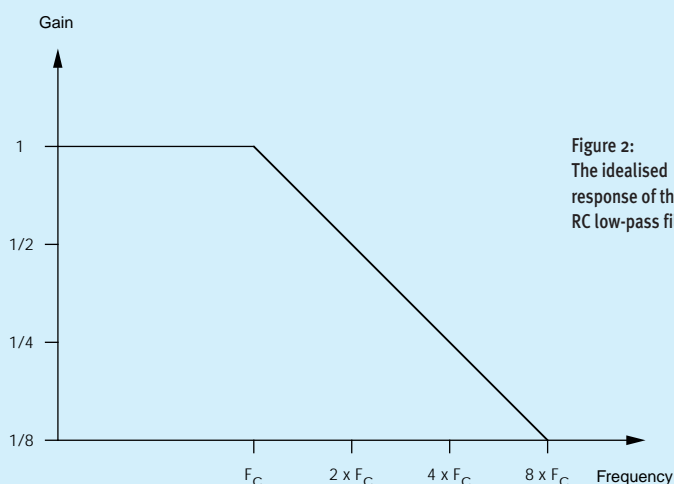
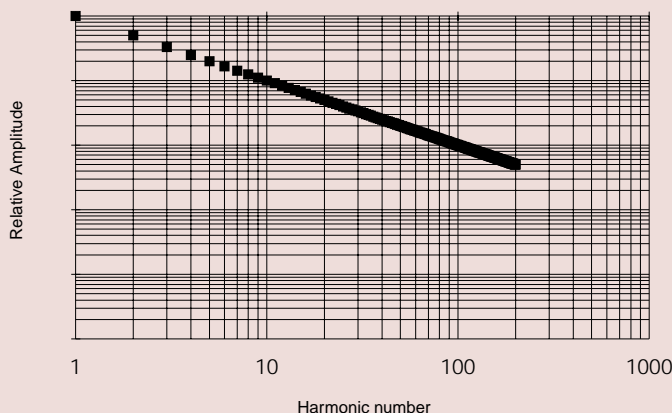

Figure 2:
Figure 5: The harmonic structure of a 100Hz sawtooth wave expressed on log/log axes.
the cutoff frequency (which I will call F_c), the gain at the output is halved (see Figure 2, left).
Unfortunately (and despite its ubiquitous use within the music industry) Figure 2 is actually *wrong*. Figure 3 shows a more accurate representation of the transfer function. As you can see, the signal amplitude is already down by 3dB at the cutoff frequency. This is not a fault. In fact, in electrical engineering, the position of this 3dB cut *defines* the cutoff frequency. So, let's state this month's first Synth Secret:
Now, let's back-track a little and consider what a simple low-pass filter does to a common waveform. To simplify matters, we'll use the idealised low-pass filter response seen in Figure 2, because its sharp 'knee' makes it easier to recognise what's happening. Figure 4 shows the harmonic structure of the most common analogue synthesizer waveform of all: the sawtooth. All the harmonics are present in this signal, and their
► amplitudes relative to the fundamental are defined by the simple relationship $1/(\text{harmonic number})$. Drawn on conventional graph axes, the amplitudes of the first 200 harmonics look like the graph shown in Figure 4 (see page 101). However, Figure 4 is far from the best way to represent these harmonics. Much better is the graph with logarithmic axes shown in figure 5 (right). This looks quite different, but it represents exactly the same information, so don't worry if you don't know what a logarithmic scale is. Furthermore, it should be obvious why I have chosen to change the axes of the graph in this way, even if you *don't* know what a logarithmic scale is: unlike in Figure 4, the amplitude relationship is now a straight line, and this makes it easy to see the filters' effects in the following graphs. Indeed, if you now look back at Figures 2 and 3 and study the axes, you will see that these graphs also have logarithmic axes.